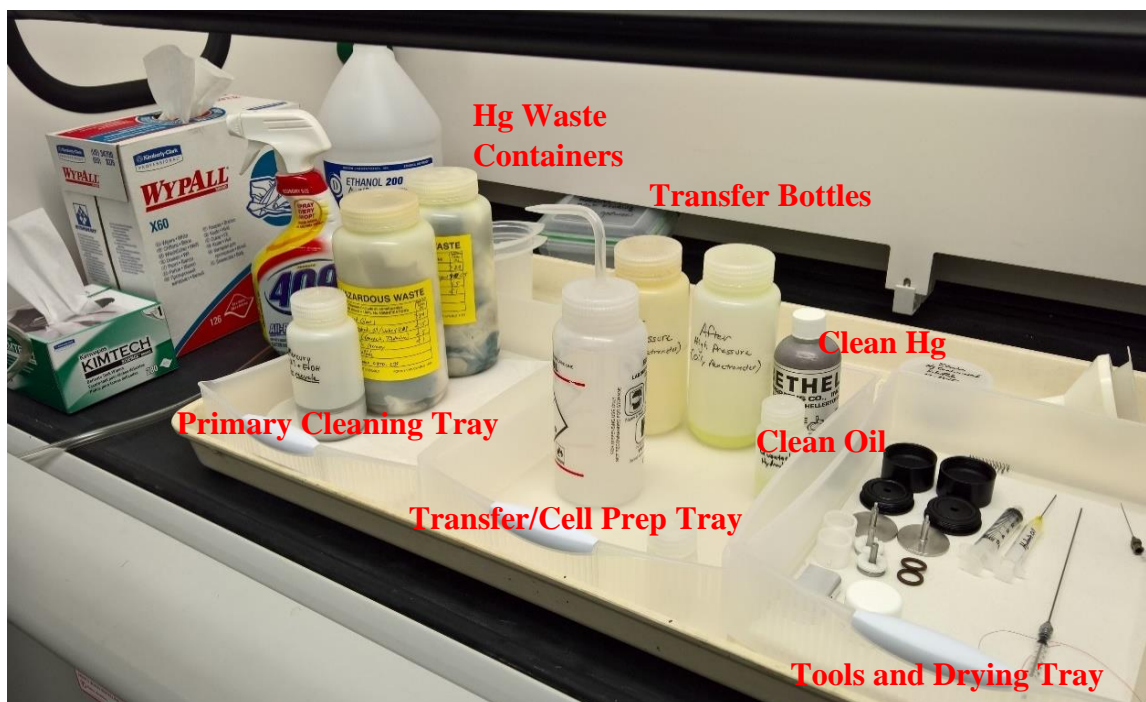

Figure 33. Cleaning stations
- There are three trays in the fume hood as shown in Figure 33. All are polypropylene and are thus resistant to mercury, oil, ethanol, and detergent. The left tray is for primary cleaning. The middle tray is for cell prep (Hg addition/subtraction, oil addition). The right tray contains only clean items that may still have ethanol drying from crevices/threads/etc. All are contained in a secondary containment tray, so any spills inside a tray can be rinsed into a waste bottle and the rinsing can still be done within containment. **Wear gloves and lab coat for all cleaning procedures.**